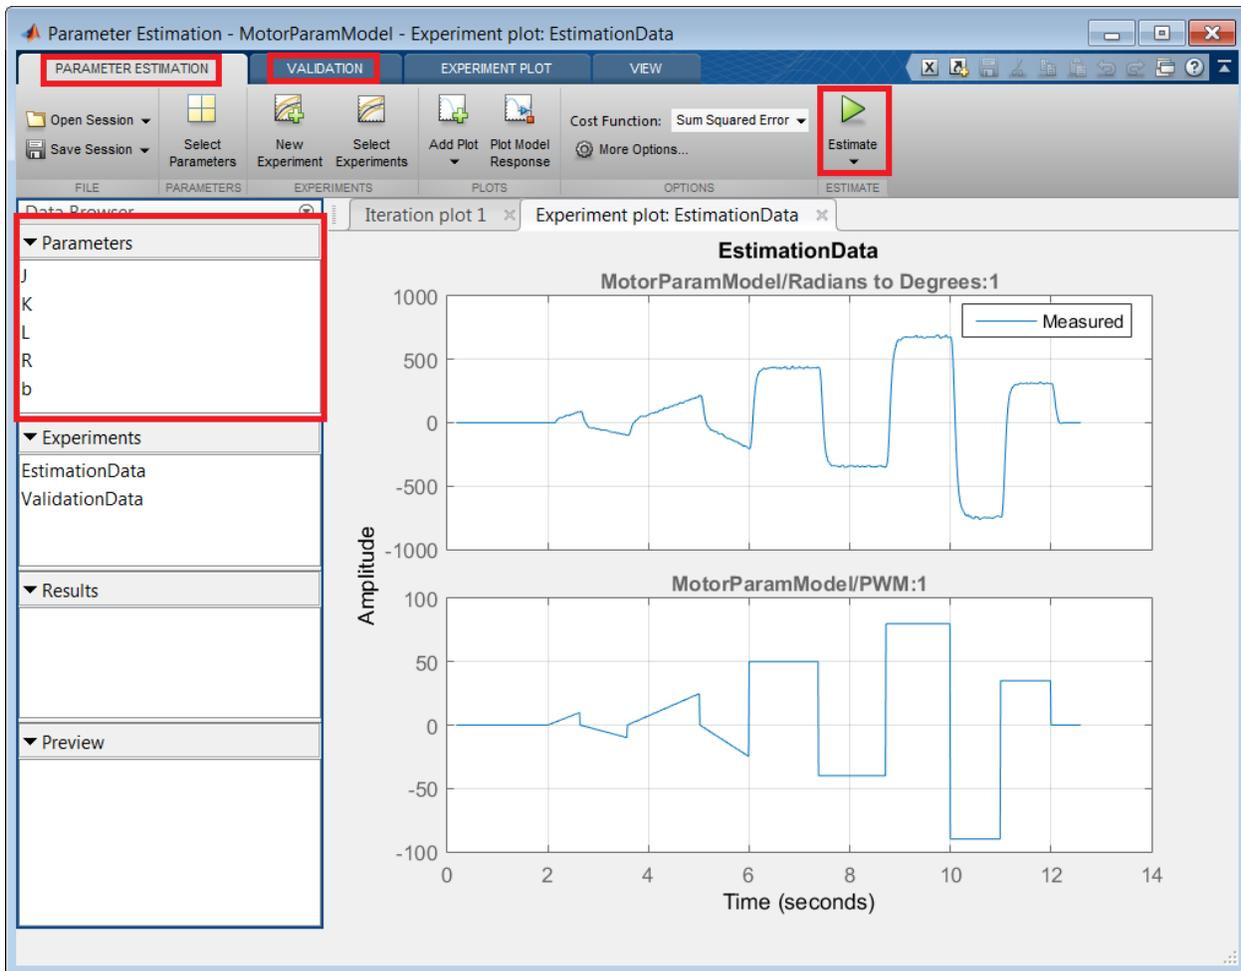

Figure 39 - Parameter Estimation Tool – Estimation
4. Navigate to the **'Parameter Estimation'** tab as shown in Figure 39 and click on **'Start'** to begin the parameter estimation.
- Once the estimation is finished, navigate to the **'Parameters'** pane (Figure 39).